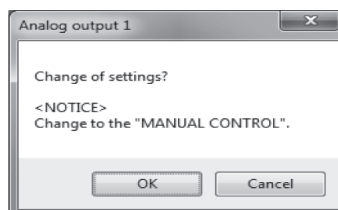

Fig.42
- ④ Click the "OK" button after all settings are completed to display the message box (Fig. 42). Click "OK" here to change the settings to the inputted values, and to reflect the changed setting values in the flowmeter's output. For the sake of safety, if the flowmeter's output is used to control valves or other such parts, then change that control loop to manual control so that the control loop is not influenced by the flowmeter's output.